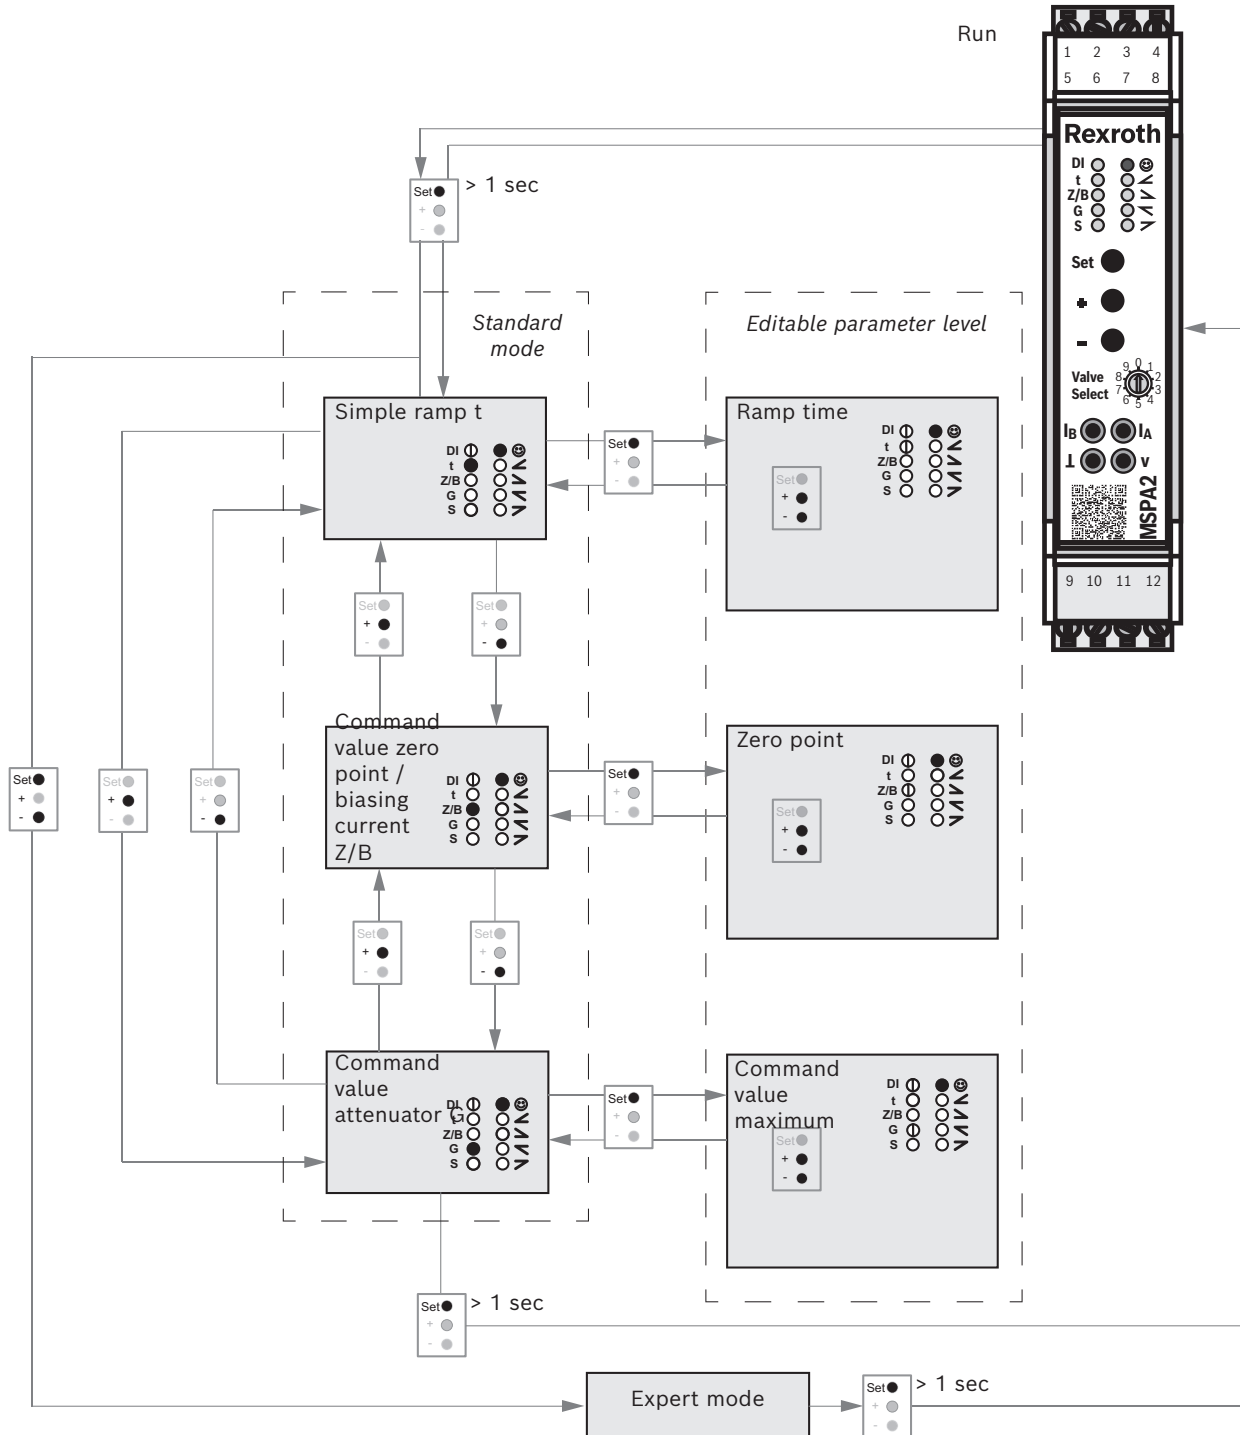

Fig. 6: Menu structure
- Press **[Set]** > 1 s in order to switch to the first settable parameter (simple ramp, see Fig. 6).